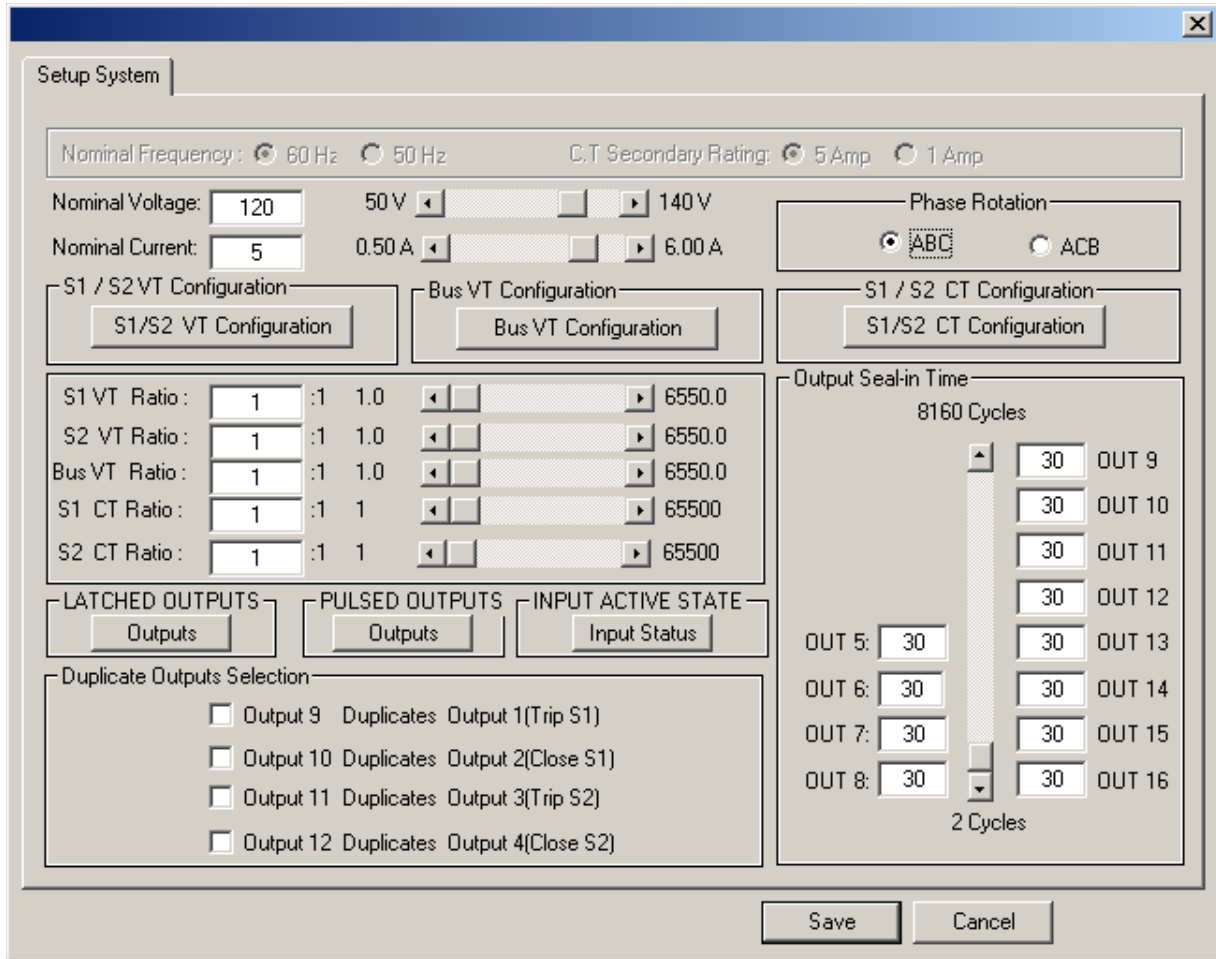

Figure 4-20 Setup System Dialog Screen
The System Setup consists of defining all pertinent information regarding the system quantities. The Setup System dialog screen (Figure 4-20) is accessed through the **System** menu (**System/Setup/Setup System**). Regardless of the functions that are enabled or disabled, all Setup System values are required to be entered. Several MBTS functions require the proper setting of these values for correct operation.
1. From the ISScom Main Screen menu select **System/Setup/Setup System**. ISScom will display the Setup System screen (Figure 4-20).
The Pulsed Outputs selection screen allows the user to select which outputs are pulsed when they are activated. The pulse width is defined in the Output Seal in time section of Figure 4-20, Setup System Dialog Screen. If pulse MBTS operation is selected, output will dropout after the seal-in delay expires, even if the condition which caused the MBTS to pick up is still out of band. When selected as Pulsed the output will be grayed out in the Latched Output Selection screen.
The Duplicate Outputs Selection feature (Figure 4-20) allows an additional output to be selected that will operate at the same time as the trip or close commands are issued to their assigned outputs. The duplicate output can provide additional trip and close outputs as needed.